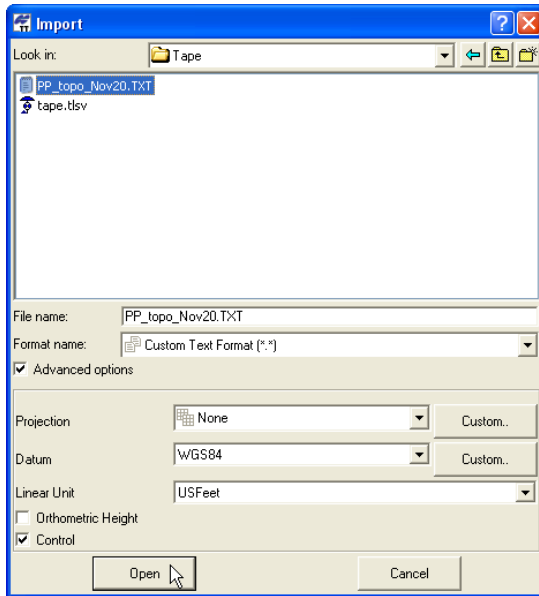

Figure 3-5. Import Custom Format File
- Select the desired *Advanced* options (Figure 3-5 on page 3-9):